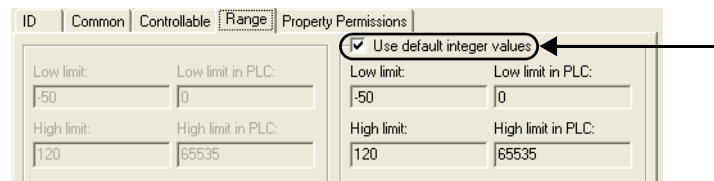

Figure 32. Range Tab for a Signal
When Use default values is selected, the default values from the signal types will be used, see Figure 32.
- 15. Click **Apply**. The settings will revert to default values, see also Figure 32.